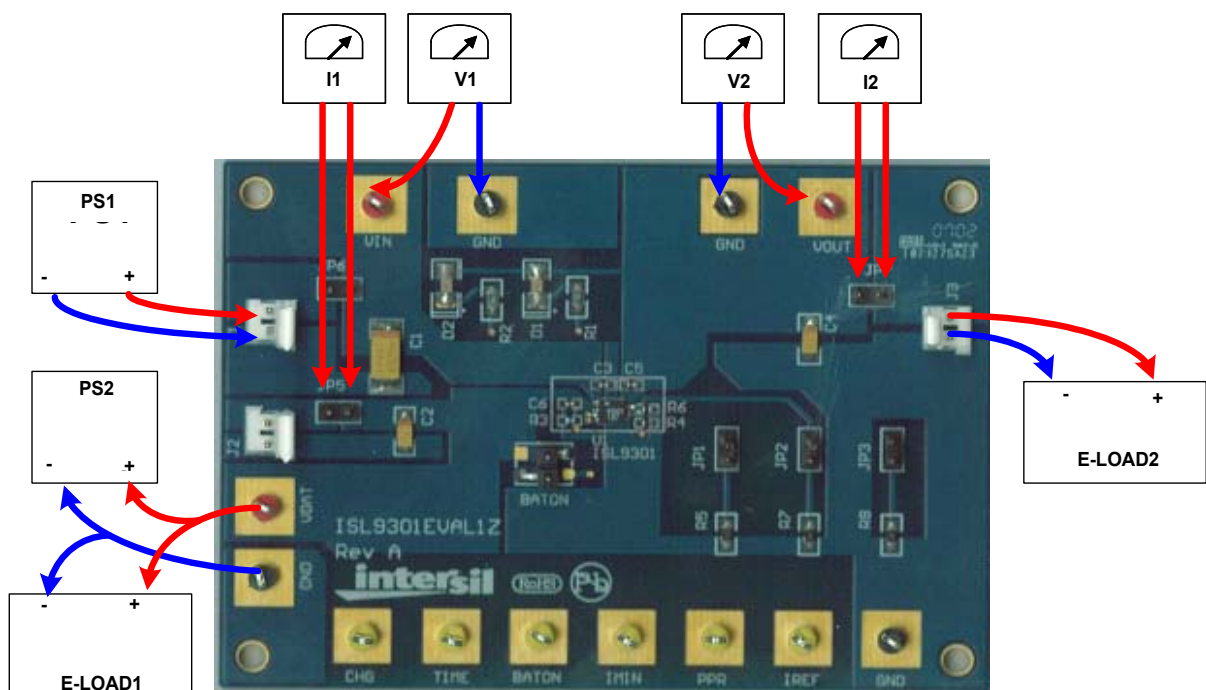

FIGURE 1. CONNECTION OF EQUIPMENT
Quick Setup Guide (Refer to Figure 1)
- Step 3: Connect a current meter to JP5 as shown in Figure 1
JP5 - A shunt installed on JP5 connects the BAT pin to the output connector J2 if IBAT measurement is not needed. The shunt can be replaced by a current meter if charge current measurement is needed as shown in Figure 1.
JP6 - A shunt installed on JP6 connects the VIN pin to the output connector J1 if output current measurement is not needed. The shunt can be replaced by a current meter if input current measurement is needed as shown in Figure 1.
output current measurement is needed as shown in Figure 1.